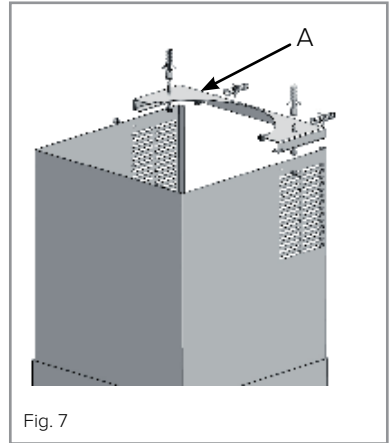

Fig. 7
1. Screw the top mounting bracket (“A” in Fig. 7) to the wall and/or ceiling, centrally above the extractor outlet.